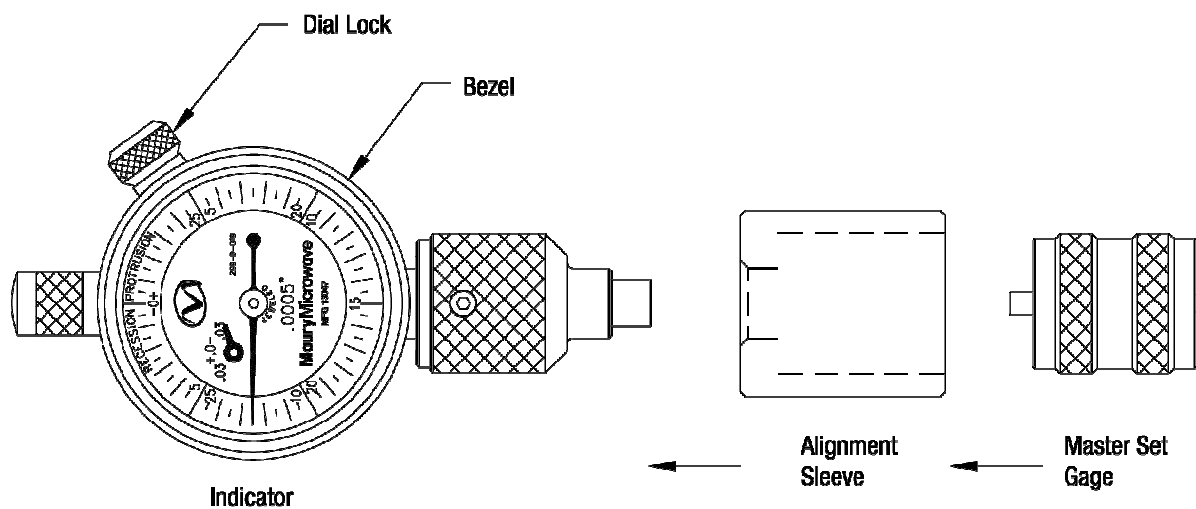

Figure 3.
Procedure: Refer to Figures 3 & 4
3. Align the connector gage and master setting gage as shown in **Figure 3**. Then carefully engage the master gage with the dial indicator until the master gage seats securely. The dial hand should rotate clockwise and stop at zero after one or more revolutions. The range indicator (small inner dial) should read +0.0.